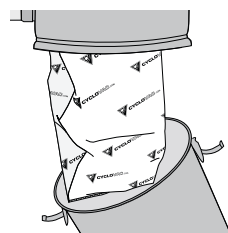

figure 16
1. To access the bag, unlatch the two clips and remove the dust receptacle (**figure 16**).